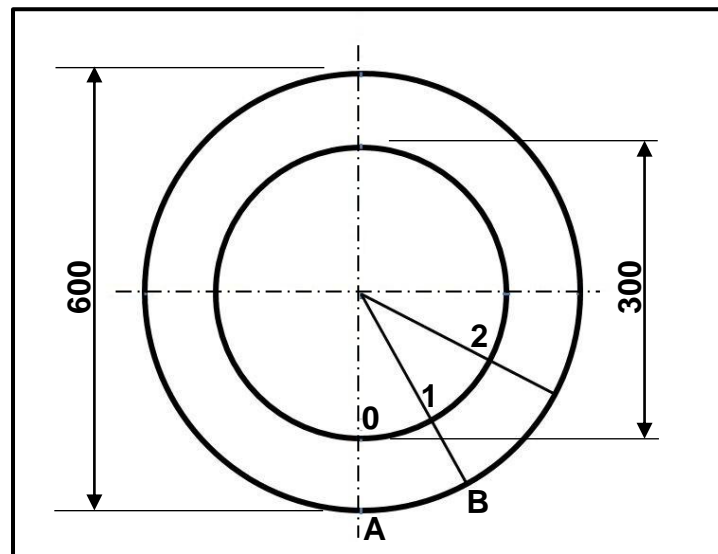

FIGURE 11.3
- (a) **A-2** (4)
- (b) **A-X** (4)
- (c) **X-Y** (3)
11.3 FIGURE 11.3 below shows the top view of a cone frustrum.